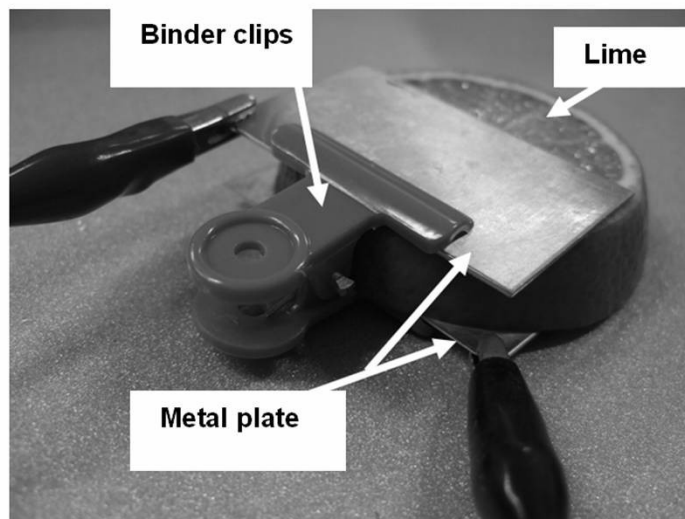

Figure I-1
1. Use lime to complete this experiment. The thickness of the lime between the two electrodes should be limited to no more than 1 cm as shown in Figure I-1.